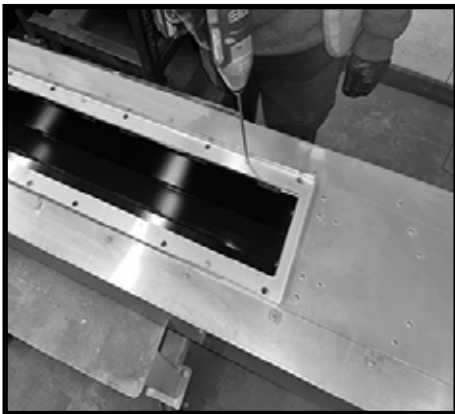

Figure 32: Door Lip Trim
7. Remove the screws holding the door lip trim to the unit. (Figure 32).